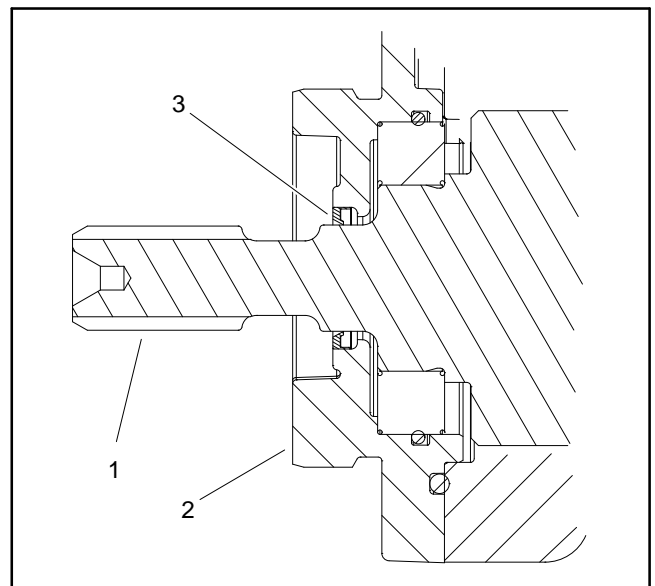

Figure 118
4. Use cutting reel motor rotor tool set (see Special Tools in this chapter) to carefully install rotor assembly (items 5, 6 and 7) into motor housing.
5. Lubricate new O-rings (items 14 and 3) with dielectric lubricant (see Special Tools in this chapter) and install O-rings to grooves in motor cover. Place wave washer (item 4) in cover.
6. Carefully slide motor cover onto rotor until it contacts motor housing. Secure cover with six (6) torx head screws.
8. Place wave washer (item 4) into housing bore for output gear bearing.
10. Slide output gear assembly (items 5, 11 and 7) into front of housing. Make sure that output gear teeth mesh with rotor gear.
11. Install shaft seal (item 13) into gearbox cover. Press shaft seal into front cover until it is flush with the cover surface. Shaft seal should have the seal lip toward the inside of the motor (Fig. 118).
12. Lubricate new O-rings (items 8 and 10) with dielectric lubricant (see Special Tools in this chapter) and install O-rings to grooves in gearbox cover.